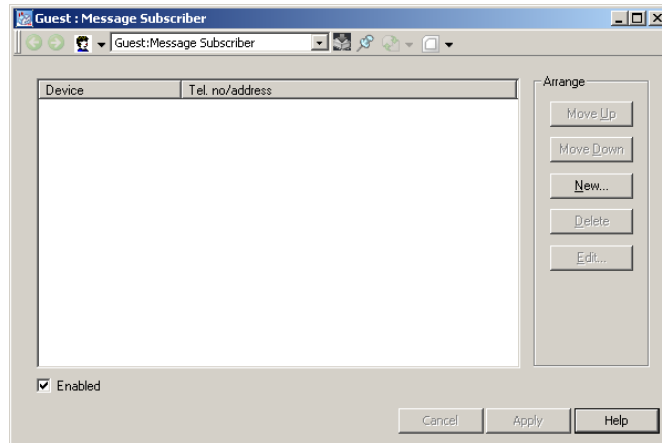

Figure 98. Message Subscriber
2. Right-click on the user and select **Message Subscriber** from the context menu that appears. This opens the Message Subscriber shown in Figure 98.